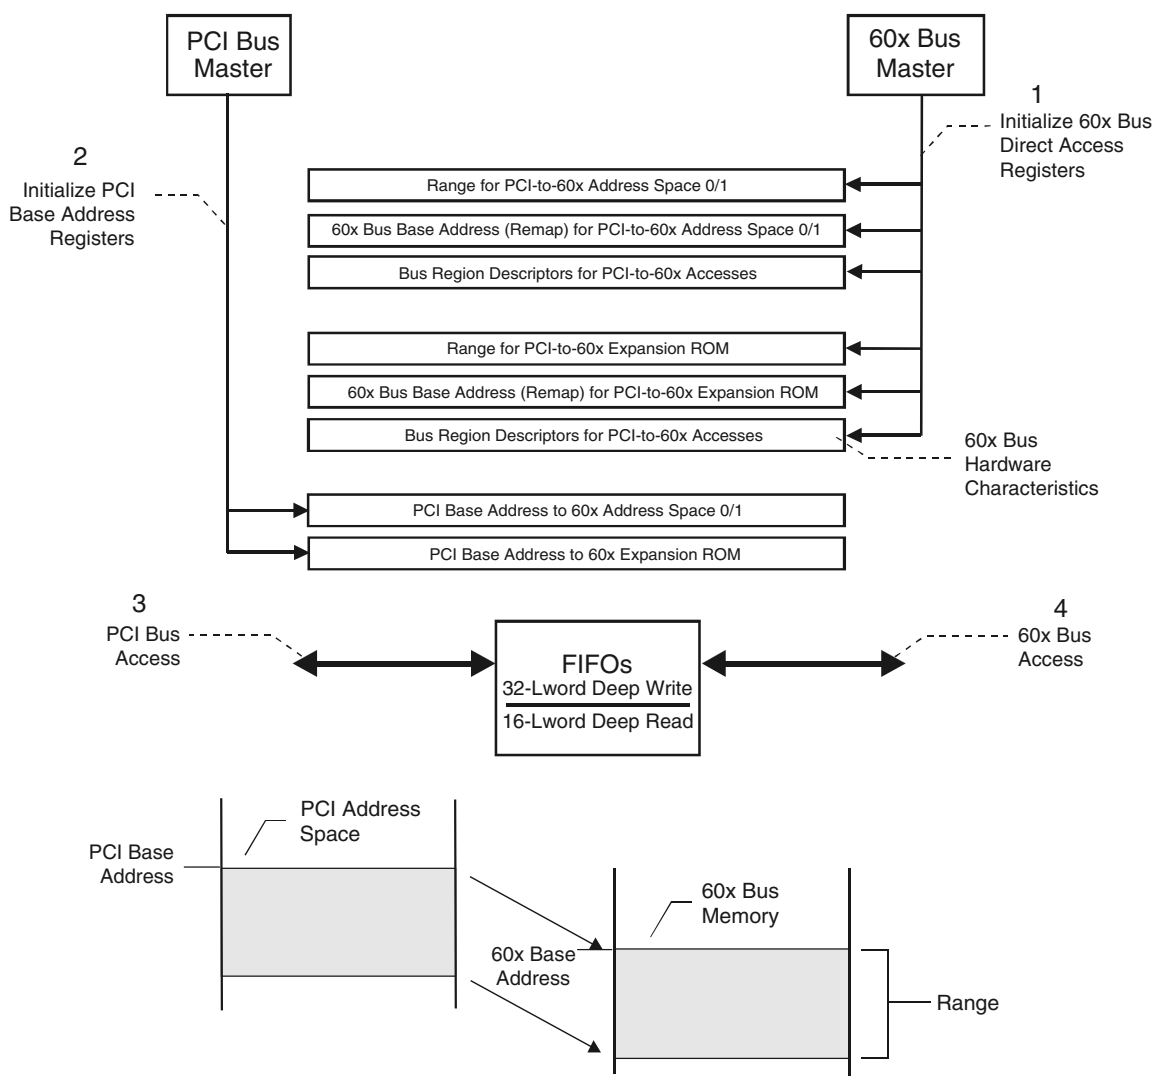

Figure 3-9. 60x Bus Direct Slave Access
A fourth register, the Bus Region Descriptor register(s) for PCI-to-60x Bus Accesses (LBRD0 and/or LBRD1), defines the 60x Bus characteristics for the Direct Slave regions. (Refer to Figure 3-9.)
After a PCI reset, the software determines how much address space is required by writing all ones (1) to a PCI Base Address register and then reading back the value. The PCI 9610 returns zeroes (0) in the Don't Care Address bits, effectively specifying the address space required. The PCI software then maps the 60x Bus Address space into the PCI Address space by programming the PCI Base Address register. (Refer to Figure 3-9.)